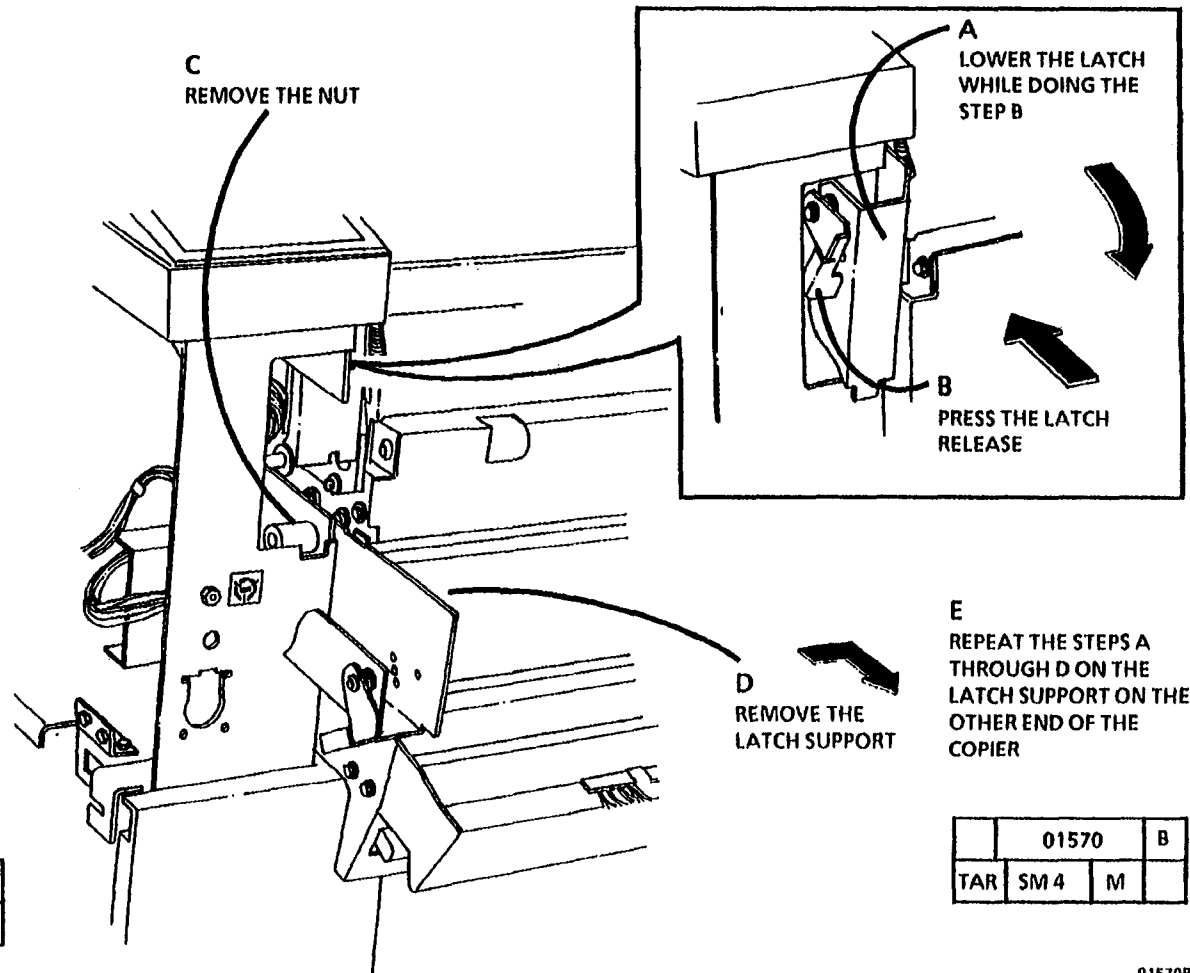

Figure 19. Remove the Latch Supports
20. (Figure 19): Remove the Latch Supports.